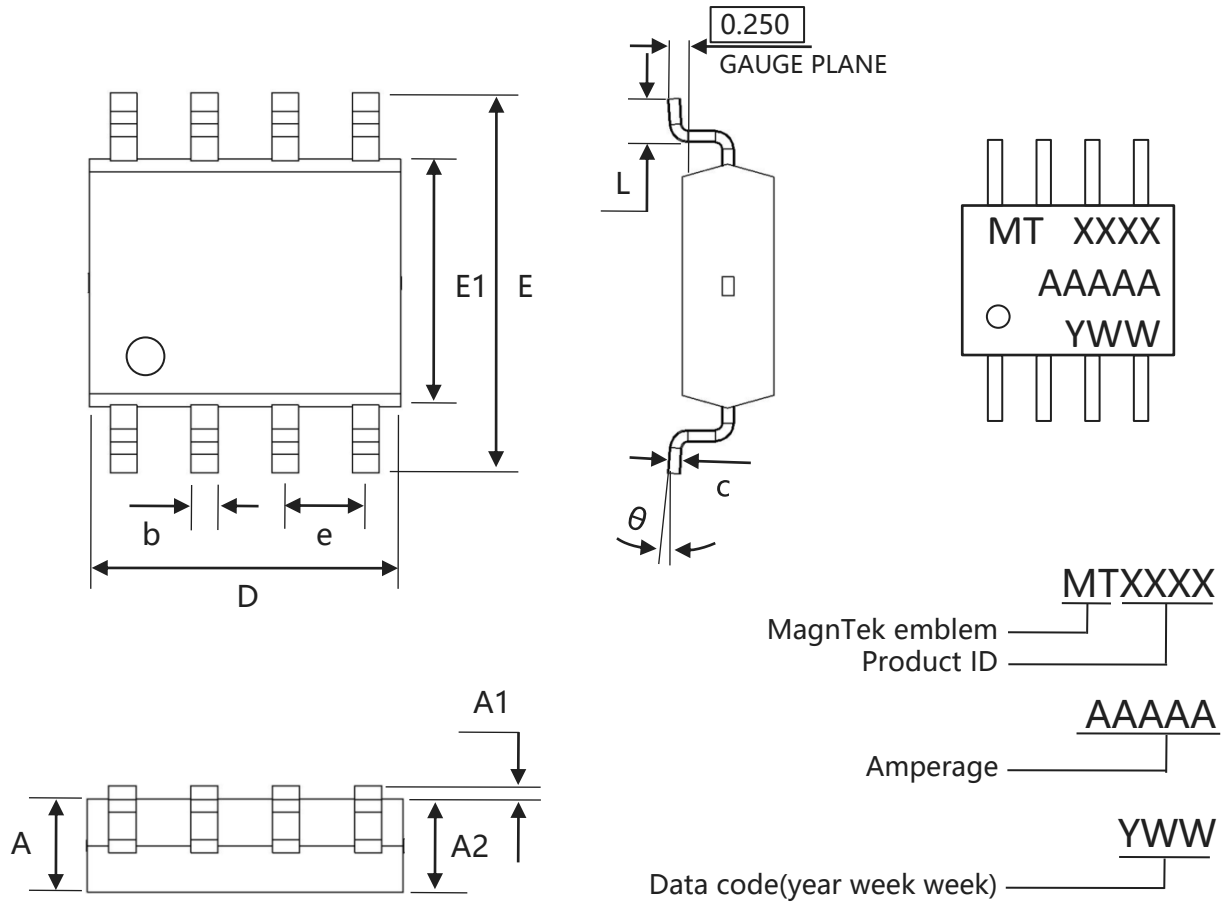

**Figure.10 Power-On Reset Definition**
**VCC drops below VCC(min) = 4.5 V.** If VCC drops below VPORL, the output will be in a high-impedance state. If VCC recovers and exceeds VPORH, the output will go back to normal operation after POR Release counter (TPORR) + POR Analog delay (TPORA) (See Figure. 10).